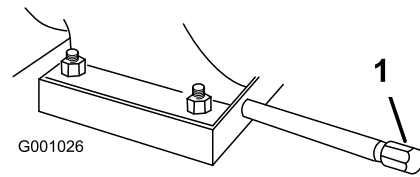

Figure 40
1. Clean the area around the oil drain cap (Figure 40).